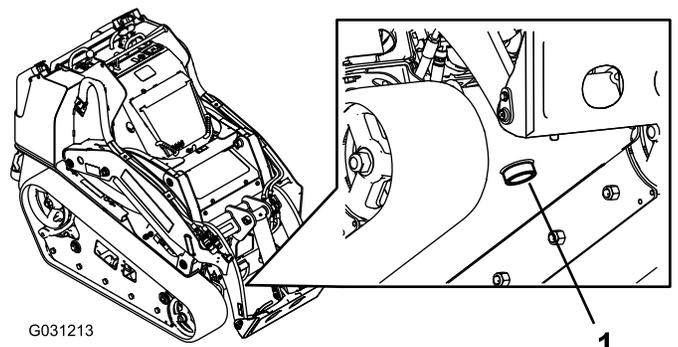

Figure 60
7. Place a large drain pan (capable of holding 57 or 15 US gallons) under the drain plug on the front of the traction unit (Figure 60).
8. Remove the drain plug and allow the oil to drain into the pan (Figure 60).